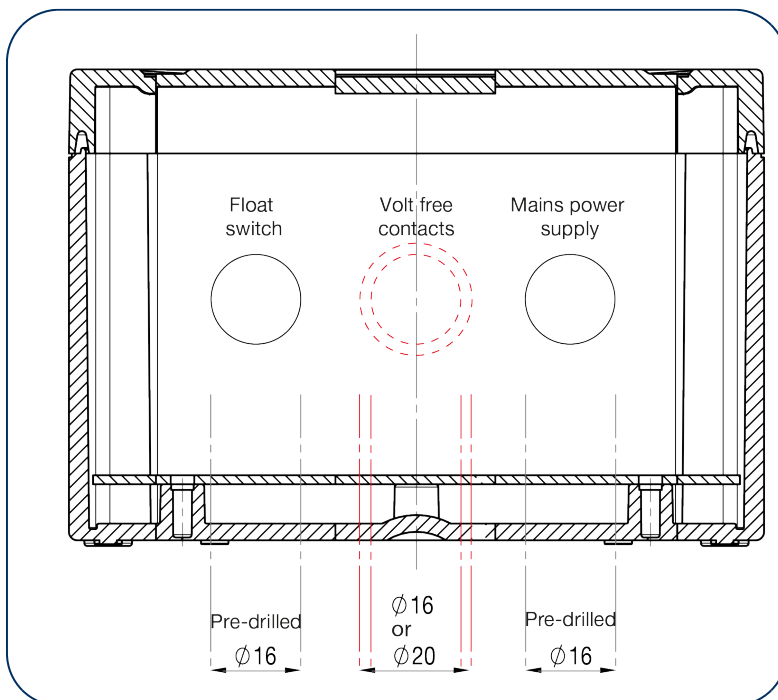

Fig.1 Drilling the mounting panel
- For the volt free contacts, you will need to drill the appropriate diameter hole **as shown in fig.1** to add the M16 or M20 cable gland. The cable gland required would depend on the diameter of signaling cable used.
1. Loosen the float switch cable gland located on the underside of the AquaSafe Alarm panel, as shown in fig.1.